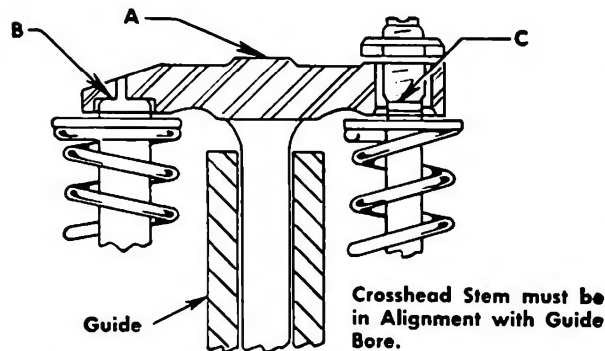

Fig. 12-32. Alignment of crosshead stem and guide
2. Use light finger pressure at "A" to hold the crosshead in contact with the valve stem "B". Turn down the crosshead adjusting screw until it touches the valve stem "C". (Fig. 12-32).